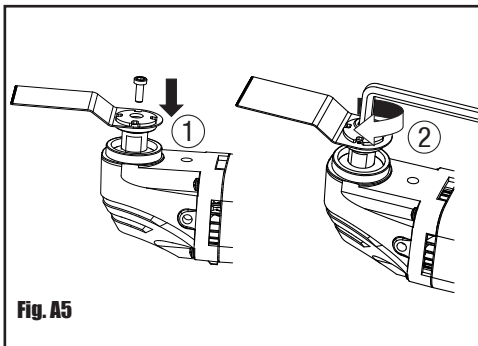

Fig. A5
- 4) Insert the bolt into the shaft. Then use the supplied hex key to tighten the bolt by turning it clockwise. Check to see if the blade is fitted securely. (See Fig. A5)